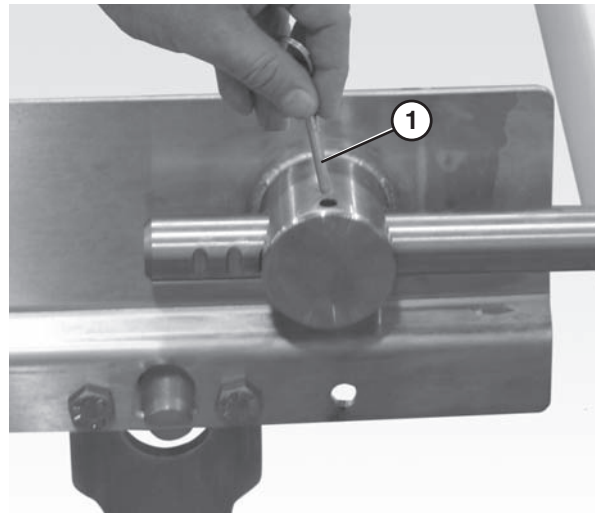

Figure 61
1. Remove the pull pins (**Figure 61, item 1**) on the tension end of the conveyor to release tension on the belt.